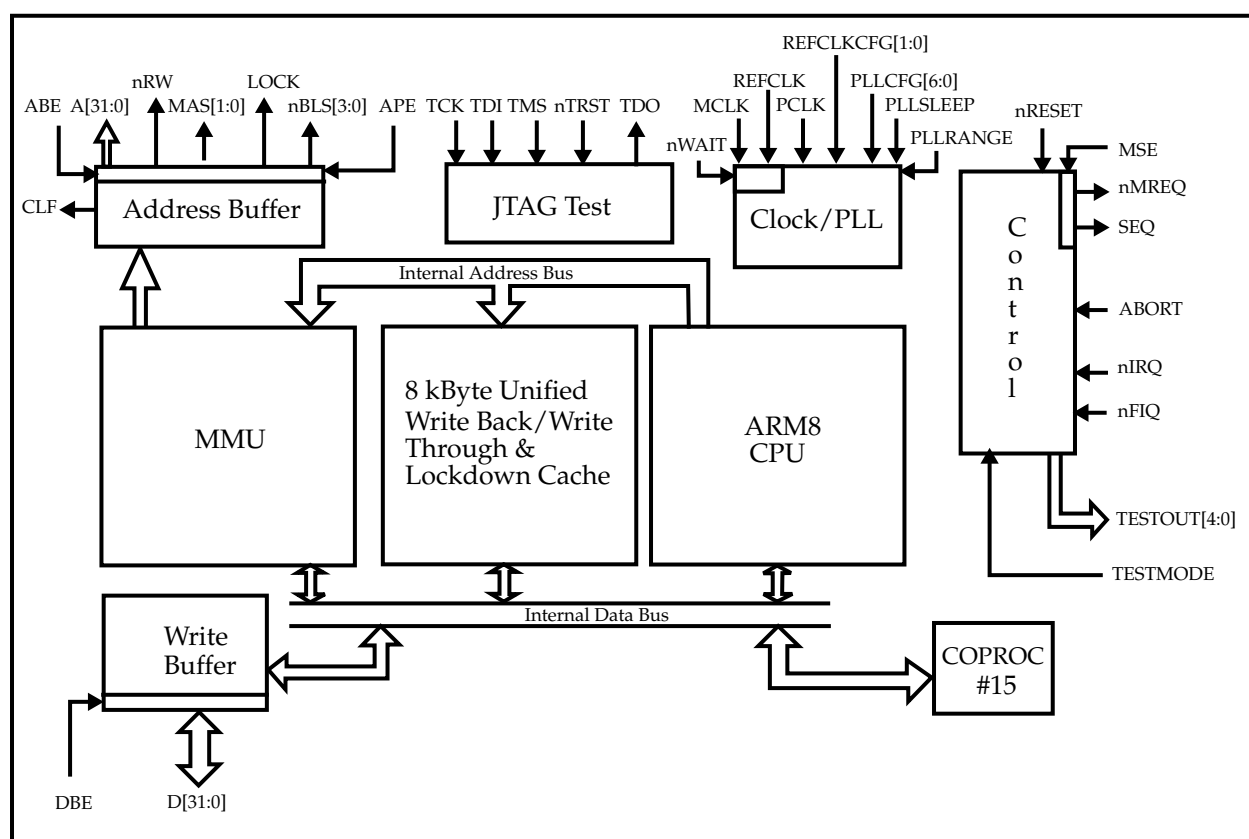

Figure 1-1: ARM810 block diagram
The block diagram for the ARM810 core is shown in **Figure 1-1: ARM810 block diagram** on page 1-3. The major blocks of the ARM810 are the ARM8 CPU, Memory Management Unit (MMU), Write Buffer (WB), Coprocessor15 (CP15), 8KB cache and external Bus Interface Unit (BIU).